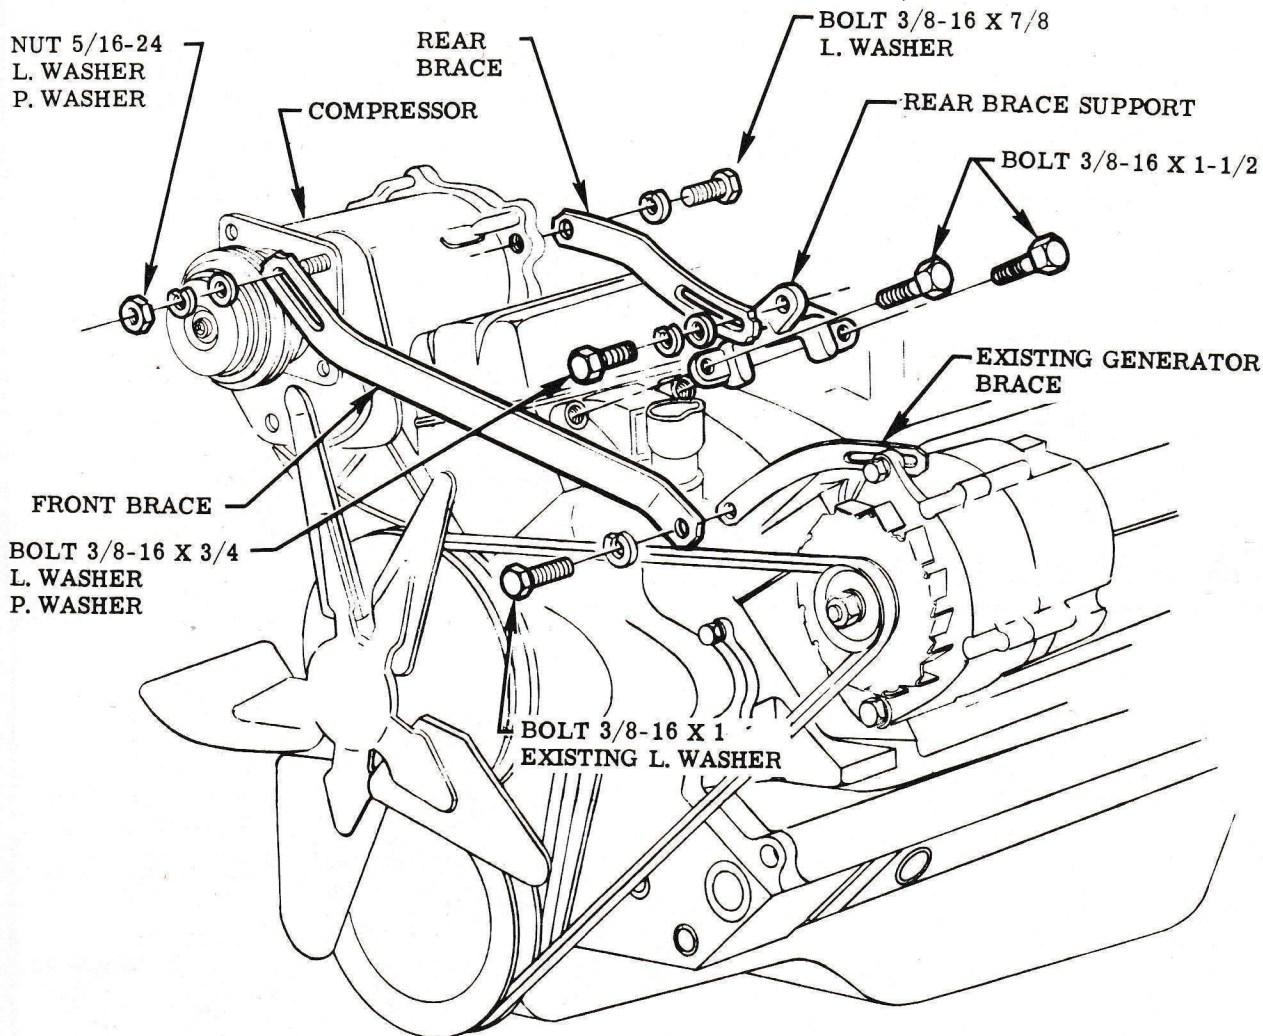

FIG. 1 COMPRESSOR BRACES ("283" & "327" ENGINE-ALL VEHICLES EXCEPT CHEVY & TRUCK)
STEP 1 REMOVE & DISCARD (2) MANIFOLD BOLTS. INSTALL PROVIDED STUD. ATTACH REAR SUPPORT TO EXHAUST MANIFOLD WITH PROVIDED ATTACHING PARTS. SEE FIG. 1.
STEP 2 REMOVE & DISCARD EXISTING NIPPLE FROM WATER PUMP HOUSING. INSTALL PROVIDED NIPPLE. SEE FIG. 1.
BATTERY GROUND CABLE TO ENGINE WITH PROVIDED ATTACHING PARTS. SEE FIG. 1.